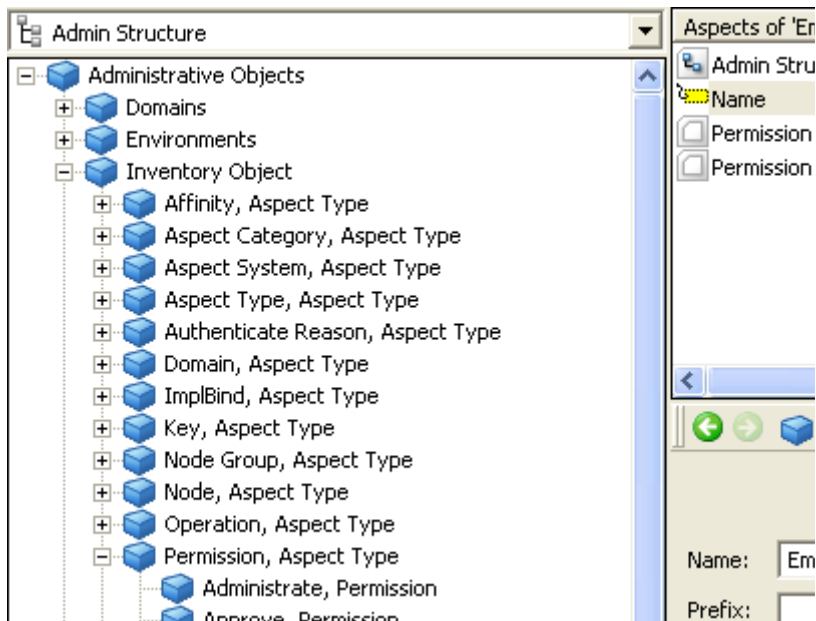

Figure 27. Name Aspect of Emergency Shutdown Object
7. Type a description in the **Description** field, see Figure 27.